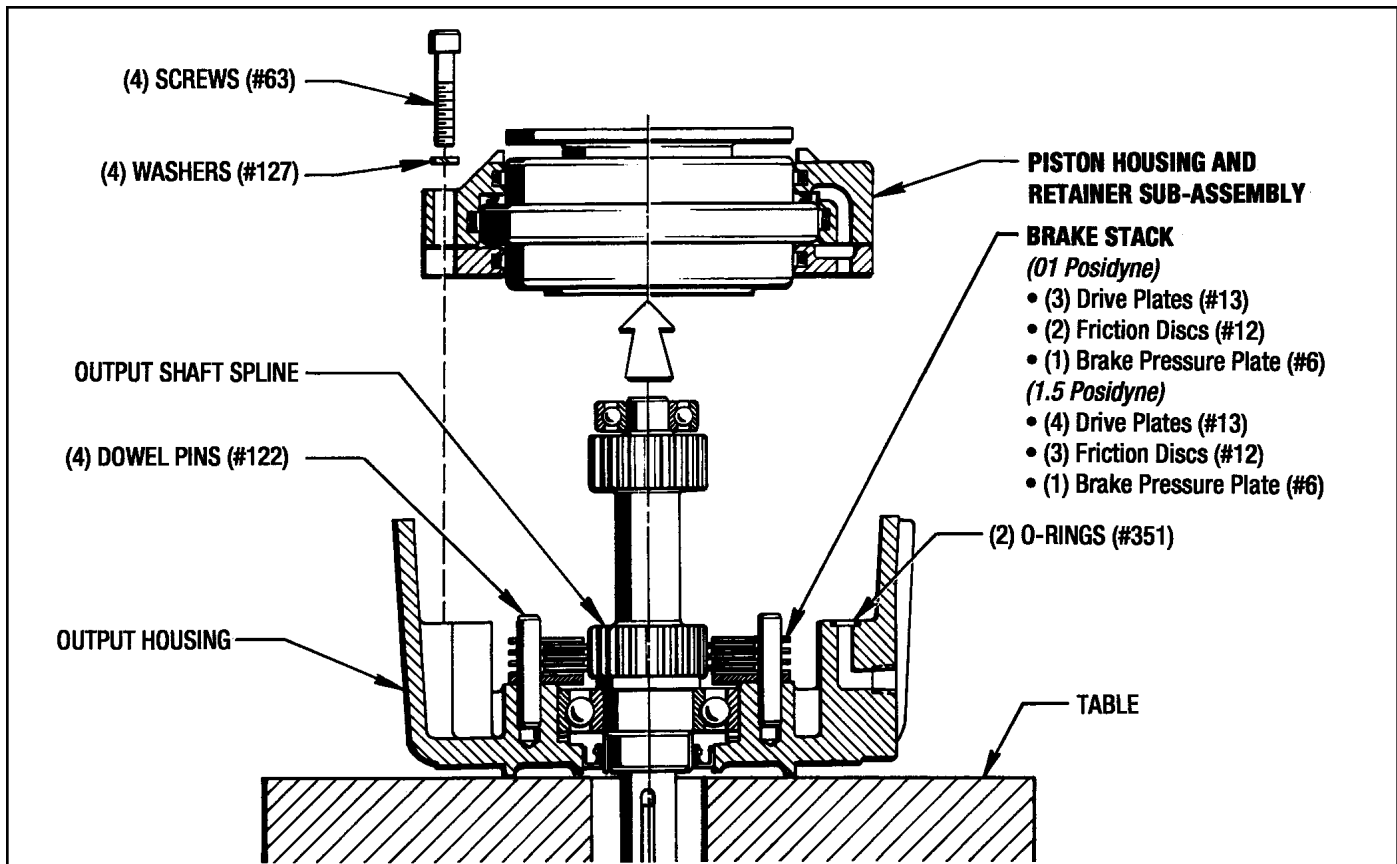

Figure 7.3 - Access to the Brake Stack
8. The Brake Stack can now be removed from the Output Shaft spline. This includes Drive Plates (#13), Friction discs (#12) and a Pressure Plate (#6). (See Figure 7.3)